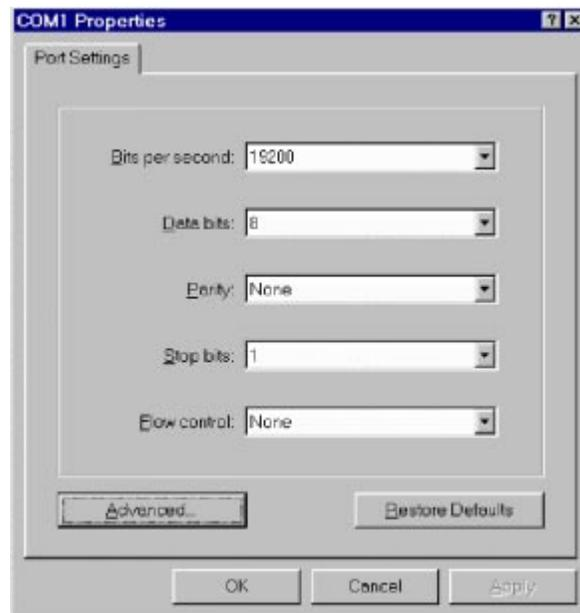

Figure 14. COM1 Properties window
6. Configure your COM port settings as shown in figure 14, then click **OK**.